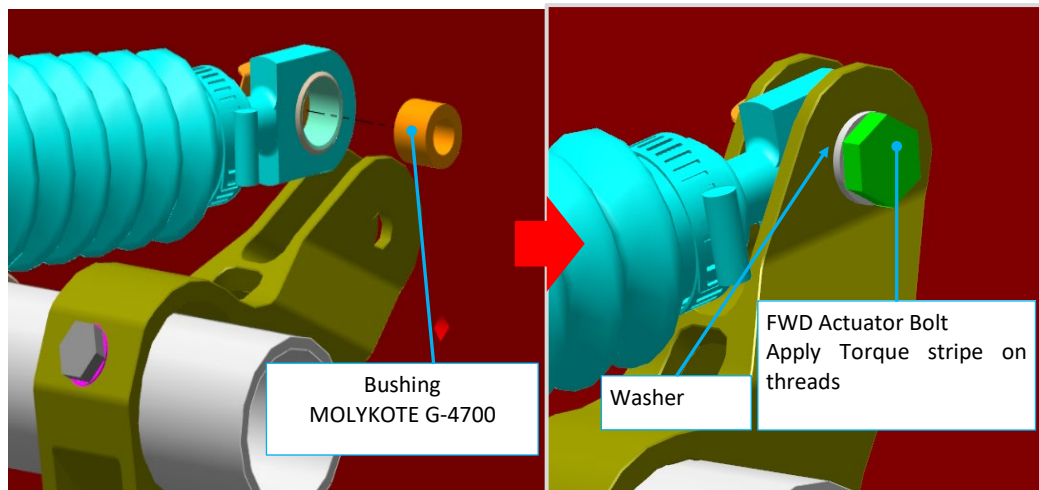

Figure 4 FWD Actuator Bolt Install
8. Remove FWD Actuator Bolt to validate Torque at FWD actuator Rod End, see Figure 4 for reference
- a. Position the forward end of the boot on the rod end as close to the rod as possible and secure the FWD hose clamp. Note orientation of the clamp seen in Figure 4.
- b. Torque hardware to 53 in-lbs, see Figure 4.